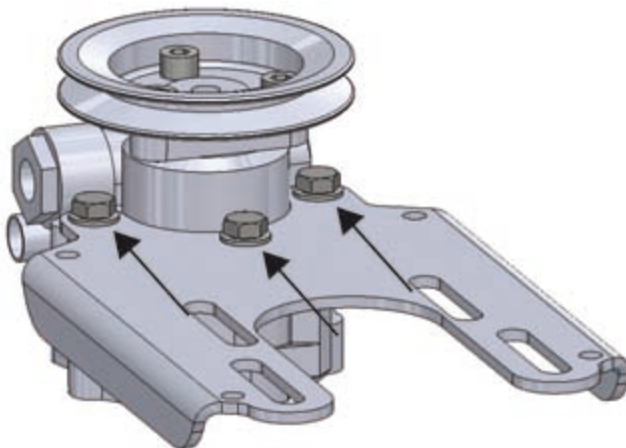

Figure 70. Hydraulic pump fastening screws
3. Remove the hydraulic pump from the rack by opening its three fastening screws (figure 70).
1. Mount the hydraulic pump in the rack using fastening screws (figure 70).